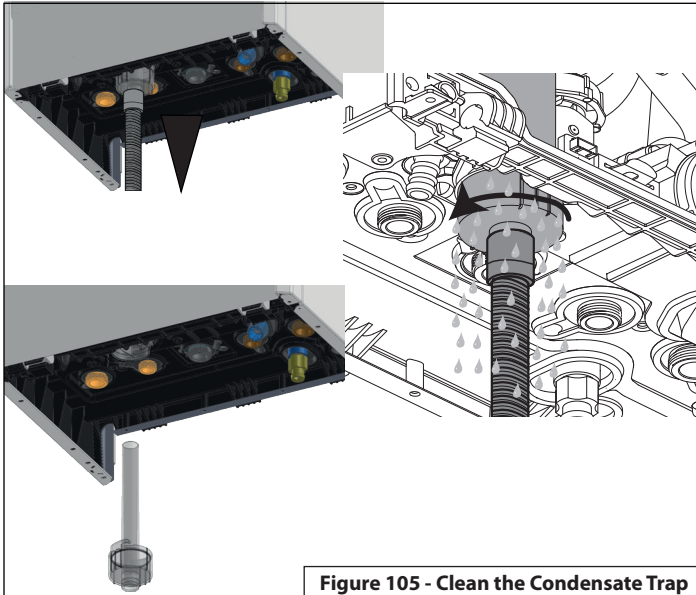

Figure 105 - Clean the Condensate Trap
- NOTE:** Ensure all parts shown in Figure 105 are installed with the boiler. If any parts are missing DO NOT operate the boiler. Replace